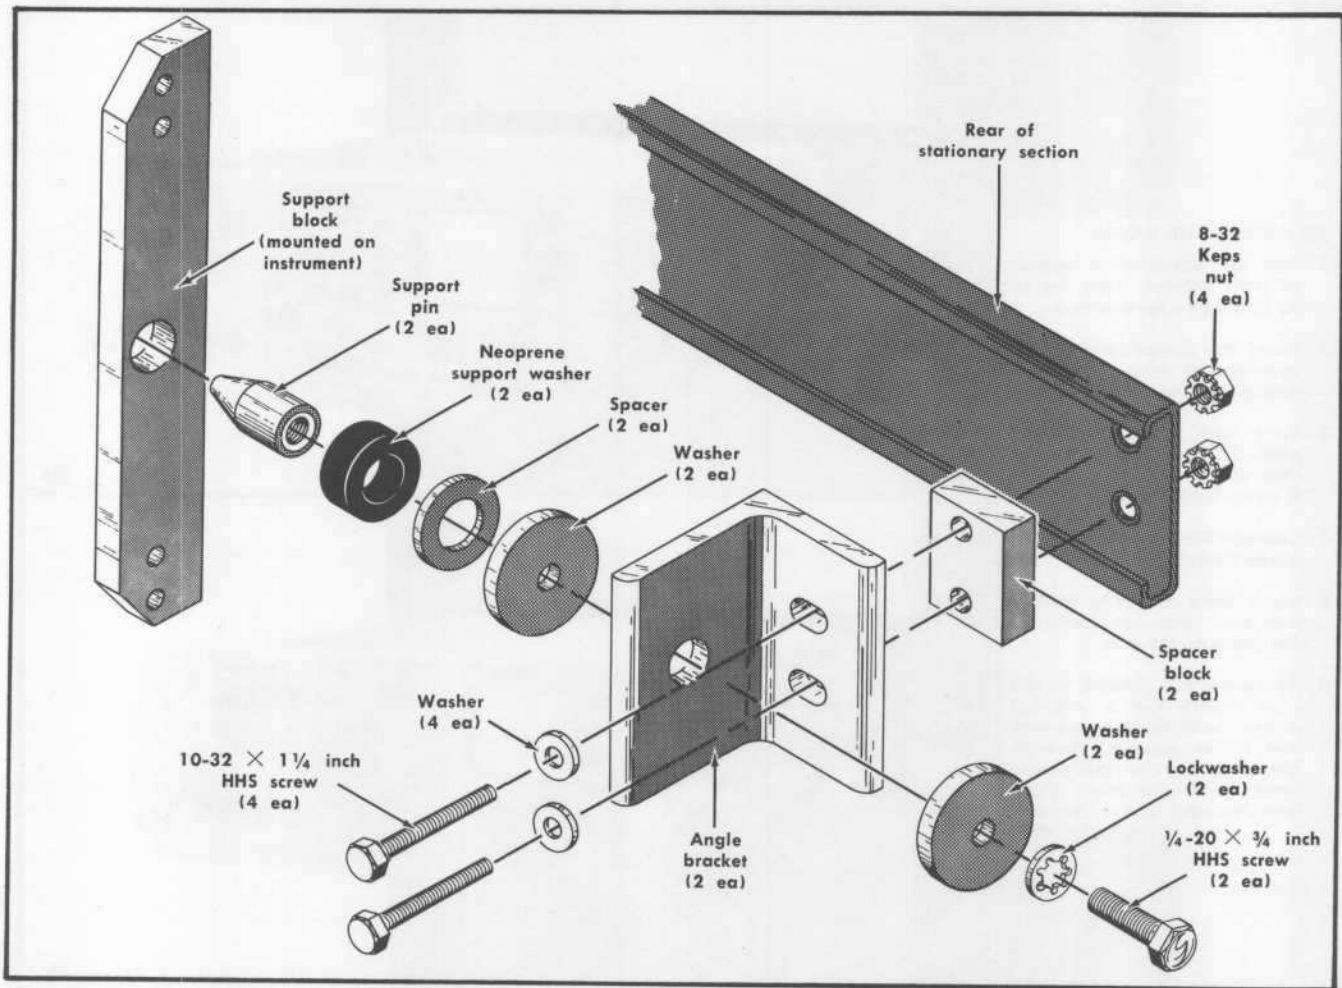

Fig. 6-7. Rear support kit.
3. Attach an angle bracket to both rear rails of the rack through the spacer block, stationary section and into the rear rail of the rack. Note that the holes in the spacer block are not centered. Be sure to mount the block with the narrow edge toward the front of the rack; otherwise, the instrument may not slide all the way into the rack. Do not tighten the mounting screws. Fig. 6-7 shows the parts in the rear support kit and the order in which they are assembled.
4. Assemble the support pin to the angle bracket in the order shown in Fig. 6-7. Leave the spacer (washer) off, but install the neoprene washer.